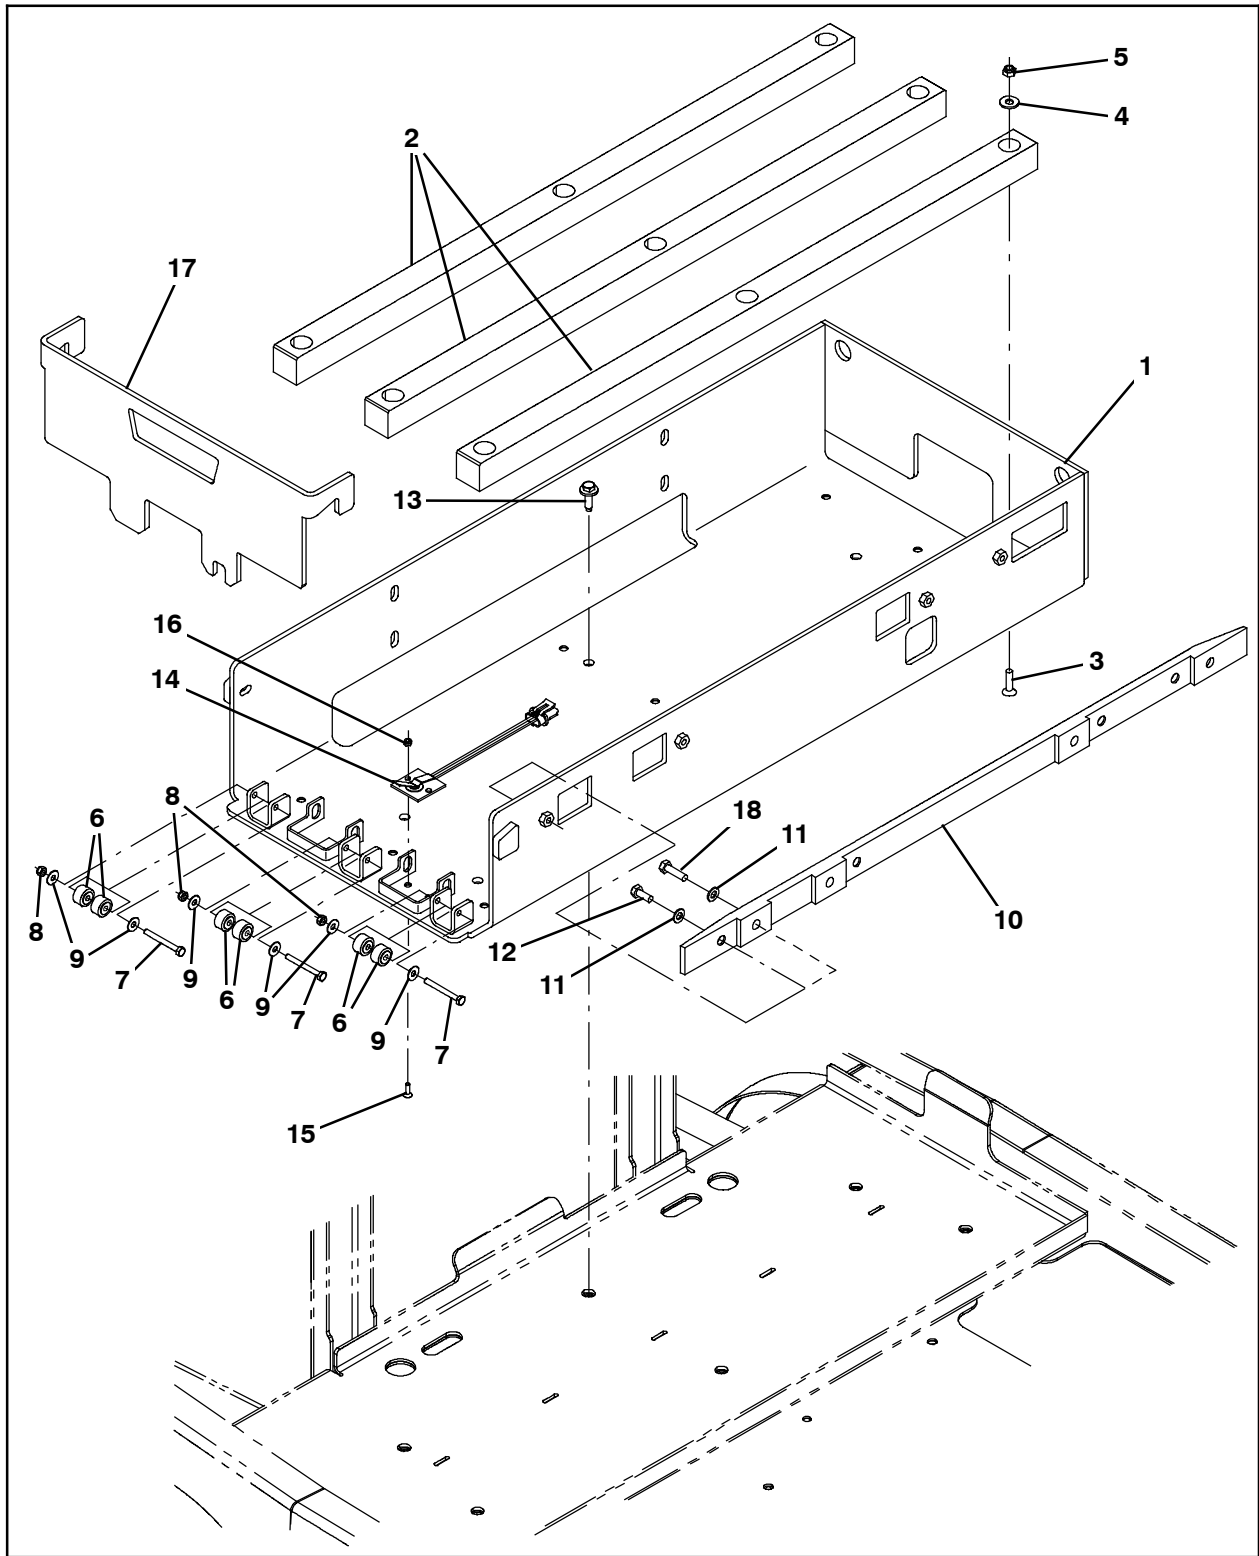

FIG. 2
4. Use three M8 flat screws (3), three flat washers (4), and three M8 hex nuts (5) to install the three plastic plates (2) into the rollout battery channel (1). (Fig. 2)
5. Use four M8 hex screws (13) to install the rollout battery assembly assembled in the previous steps into the battery compartment. (Fig. 2)
8. Install the rollout battery door plate (17) onto the rollout battery assembly. (Fig. 2)